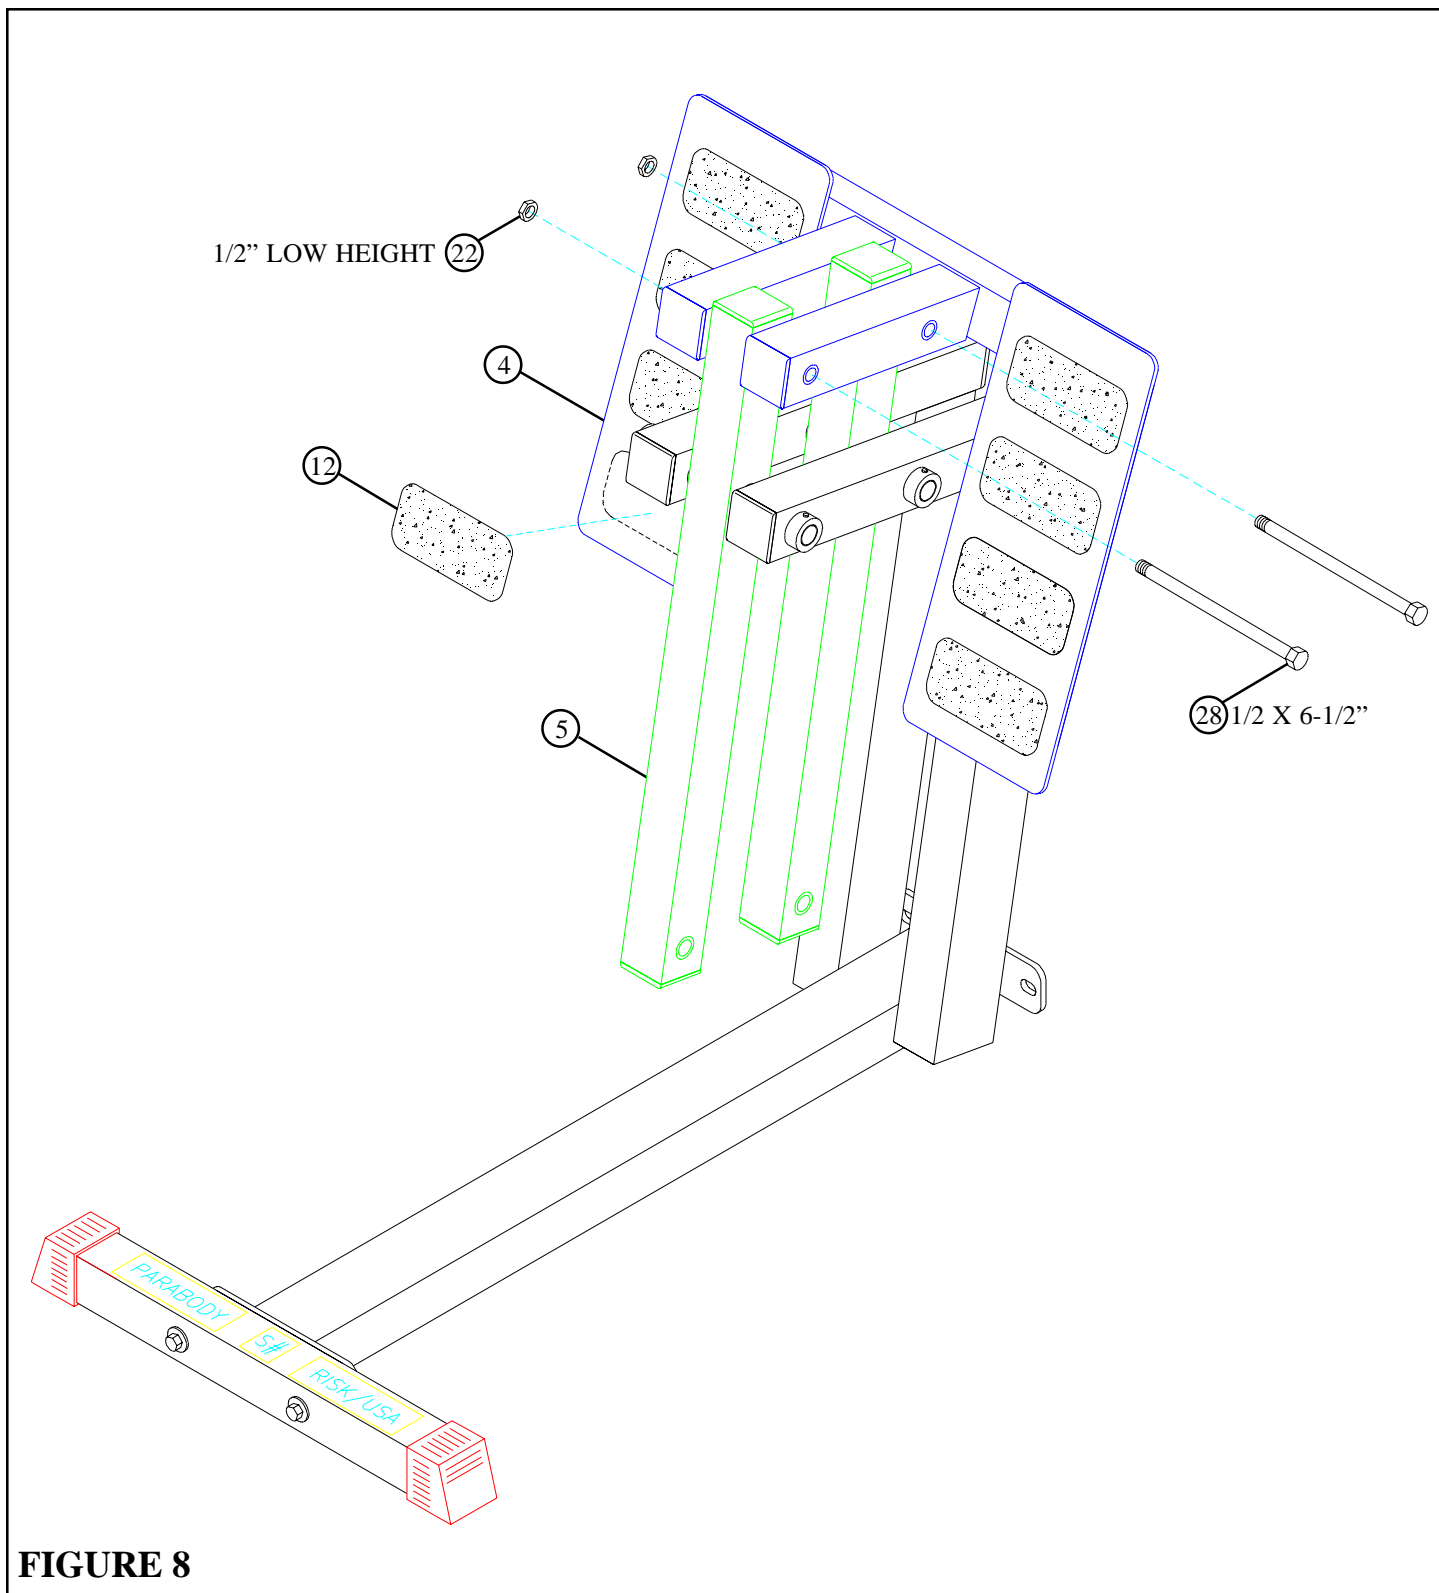

**FIGURE 7**
- Insert four 2" SQ. END CAPS (13) into the ends of FOOT PLATE (4) as shown in FIGURE 7.
- Insert eight 1/2" FLANGE BEARING (30) into the LEVER TUBES (5) as shown in FIGURE 7.